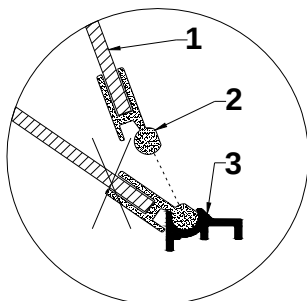

Fig.8 Disassembly of the front glass
-  **When cleaning the inside of the device do not leave the front glass freely lifted within the aluminium profile. This is related with the risk of glass damage and is not covered by warranty. The glass and the profile need to be pulled out for the period of performing maintenance activities. *Fig.8 (p. 11).***